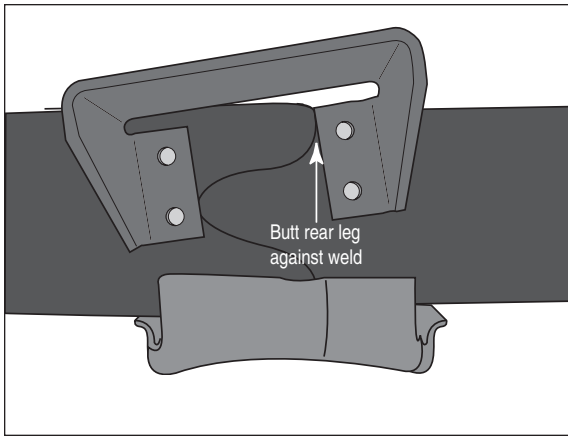

Figure 5
3. Adjust the lower bracket on the leaf spring so the rear leg of the upper bracket touches the weld where the two frame sections come together (Figure 5).
5. Secure the lower bracket to the leaf spring with the provided U-bolts (D), flat washers (F), and lock nuts (E). Torque to 16 ft/lbs.
3. With the back leg of the frame butted up against the weld, lower or raise the bracket so the self-tapping screw will be below the radius of the frame (Figure 5).